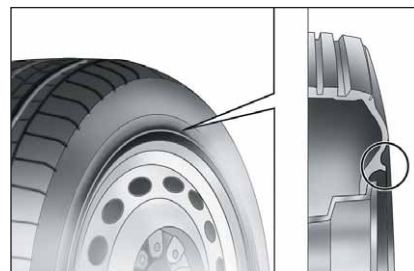

fig. 6
## RIM PROTECTOR TYRES fig. 6
*If after-sale tyres with rim protector are used (fig. 6) and the car has integral cups fixed (by springs) to the sheet wheel, DO NOT fit wheel cups. The use of unsuitable tyres and wheel cups could cause a sudden pressure loss of the tyre.*